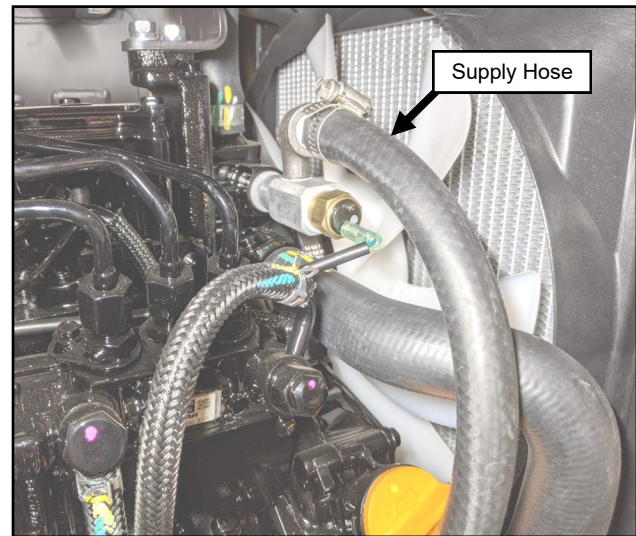

Fig. 18.12 (Heater Supply Hose)
- 18.12** Connect one end of the hose to the hose nipple with a small hose clamp. See Figure 18.12.